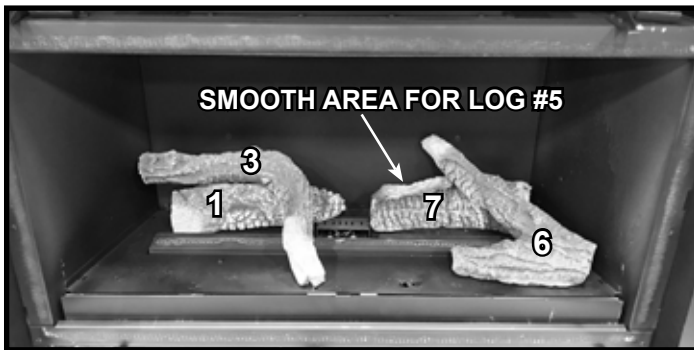

Figure 21. Place Log #6
12. Install Log #6 by placing the right end of the log against the right log tab. The left end of the log will contact the back side of the left tab. The back end of Log #6 will sit on top of Log #7. See Figure 21.
13. Install Log #5 by placing the forked end down as shown in Figure 22. One side of the fork will rest on Log #3 and the other side of the fork will touch the designated log placement tabs. The other end of the logs rests on the smooth area on Log #7 as noted in Figure 21. See Figure 22.